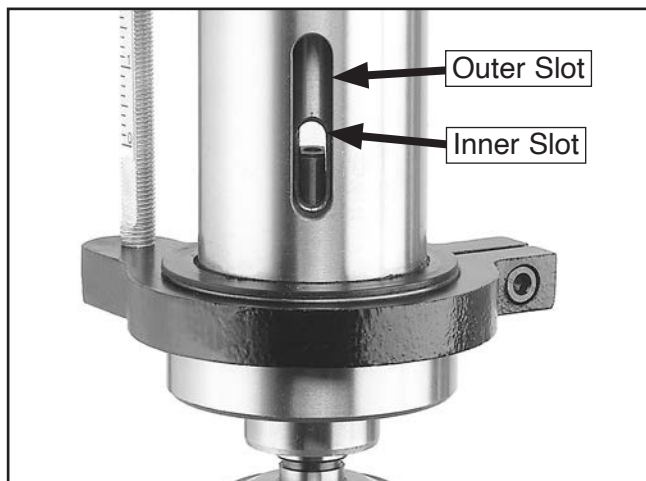

Figure 34. Example of inner and outer drift key slots aligned.
6. Rotate spindle until inner drift key slot is aligned with outer slot (see **Figure 34**). You will see through spindle when slot is properly aligned.